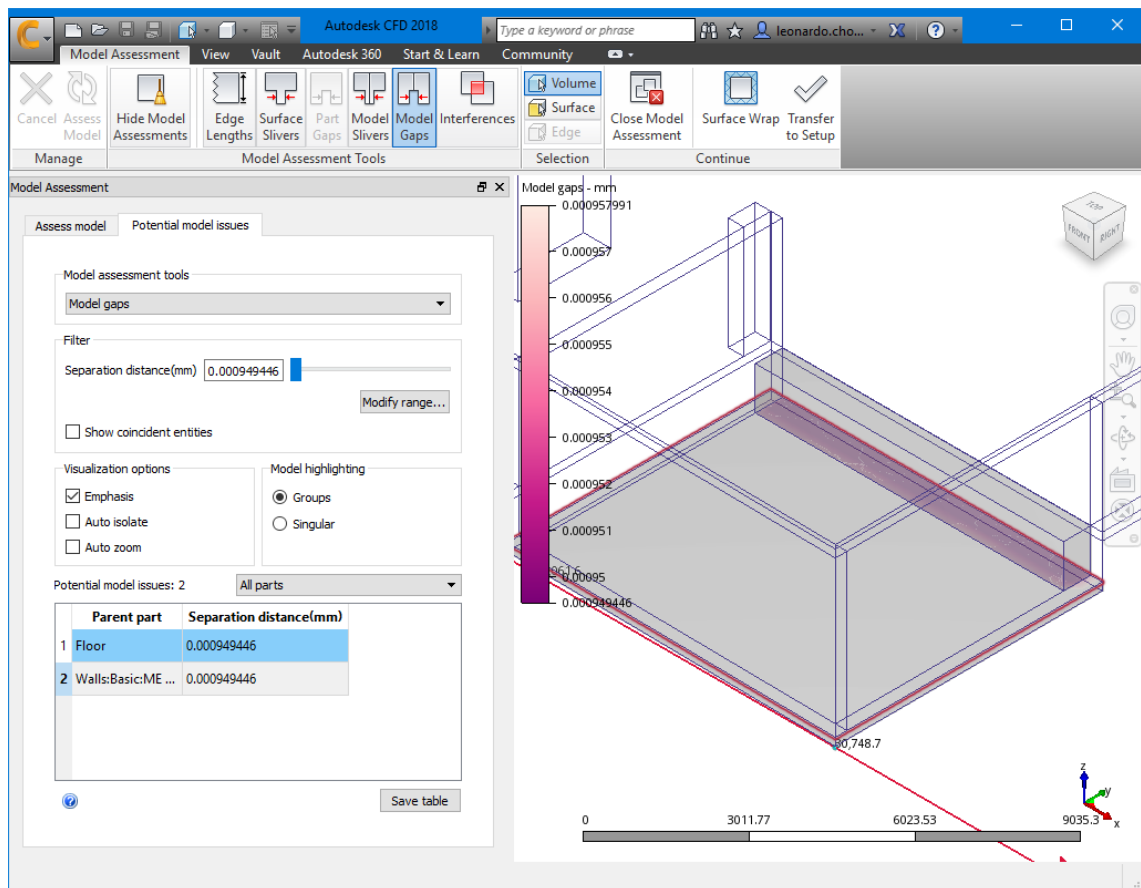

Figure 18. Detecting Model Gaps in the MAT (2nd Iteration)
**Figure 18** shows the 2nd iteration on removing model gaps. In this case we extend the wall in the negative Z direction to fully overlap with the elevator's floor slab 1100 mm below S300. **Re-launching the MAT after applying this fix and joining the two**